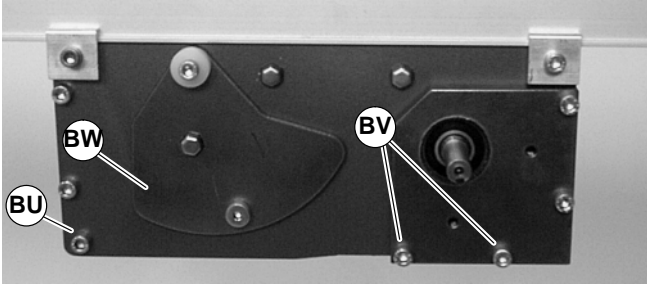
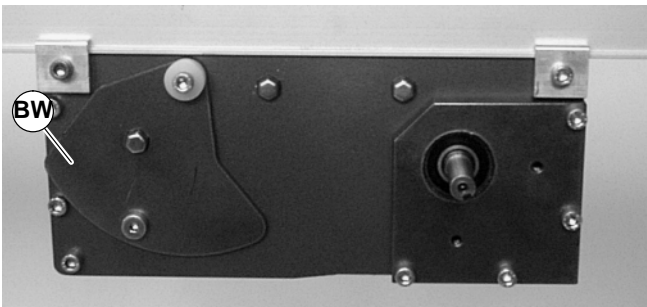

Figure 32
Figure 33
12. Tighten corner screws (BU of Figure 32) on each side of the drive module to 80 in-lb (9 Nm).
13. Re-install tension door screws (BV of Figure 32) on each side of the module. Tighten screws to 80 in-lb (9 Nm).
NOTE: For a new belt, the tension plate will be in position indicated in Figure 32 (BW). When the tension plate extends to position indicated in Figure 33 (BW), the conveyor belt must be replaced.